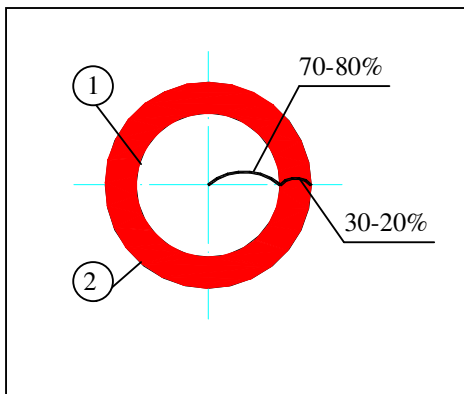

Figure 25
4-4-2 Using the Aperture Diaphragm (Figure 25)
To adjust the aperture diaphragm, remove the eyepiece then looked into the viewing tube. Your field of view will appear as Figure 25. The proportion may be changed by turning the aperture adjustment lever: (① is the image of the aperture diaphragm & ② is the edge of the objective).